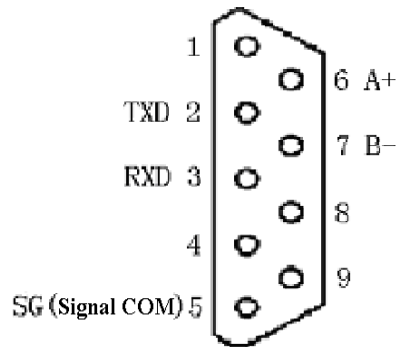

Figure4. 9-pin Standard D-Sub socket
4.5 Serial communication connector (Figure 4)
Please connect pin 2(TXD), pin 3(RXD) and pin 5(SG) of the 9-D connector in figure 4 to RXD, TXD and Signal COM of the standard RS232 serial port of the Master.
Please connect pin 6(A+) , pin 7(B-) in figure 4 to pin(A+), pin(B-) of standard RS485 serial port.